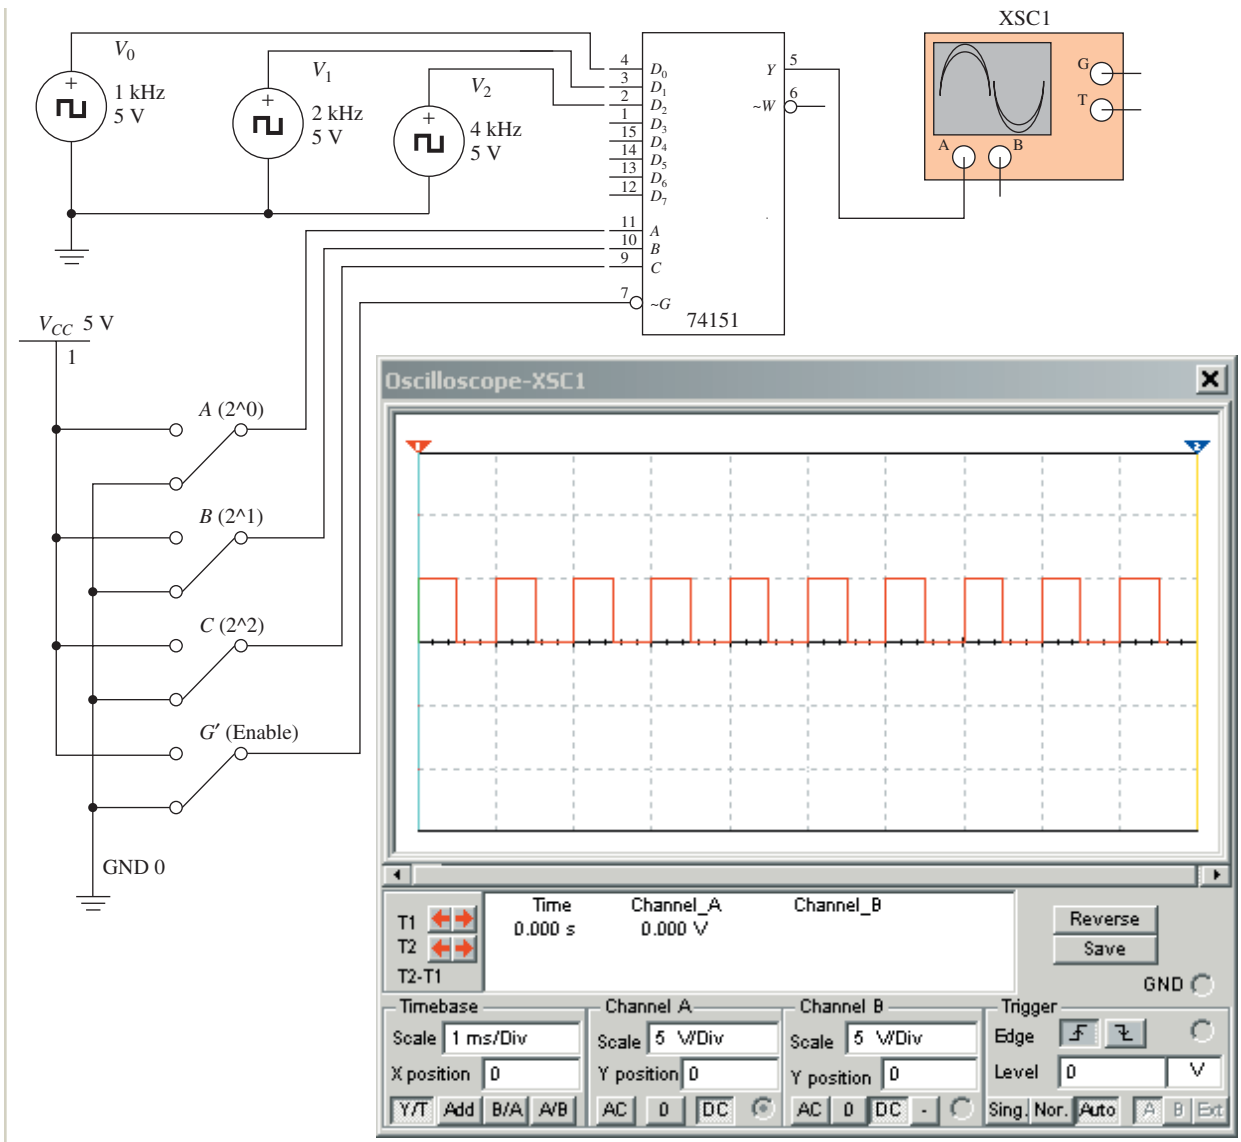

Figure 48 Simulation of the 74151 multiplexer routing three signals to an oscilloscope.
Figure 48 shows the MultiSIM[®] software simulation of the 74151 multiplexer. The object is to provide the capability to select one of the square wave signal sources (V_0 , V_1 , or V_2) and route it to output terminal Y , which is monitored by the oscilloscope. The data selection lines A , B , and C are used to select the desired input to be routed to Y . In this simulation the data selection lines are set to 0-0-0, which chooses signal source V_0 . Notice that signal source V_0 is a 1-kHz waveform. The oscilloscope is displaying a waveform with a period of 1 ms. This proves to be correct because $1/1 \text{ kHz} = 1 \text{ ms}$. Also remember that the enable control input G' must be at the 0 level to enable the multiplexer to work.
- Double-click the oscilloscope to expand its size and then turn on the power simulation switch to perform the simulation shown in Figure 48.